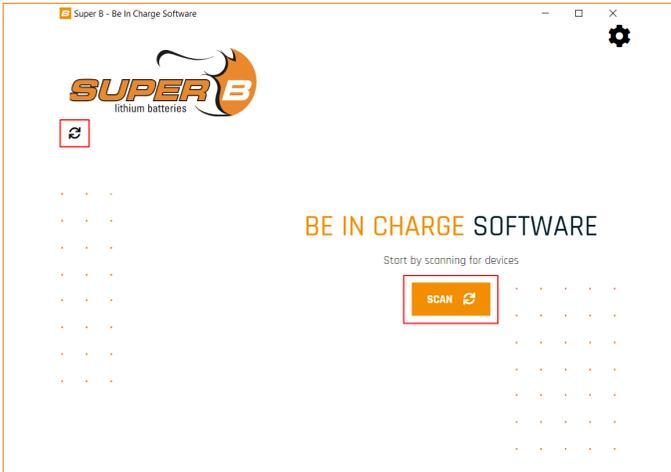

Figure 10. 'Scan' for devices
2. Select the 'Scan' button to start scanning for devices. You can also select the scan/refresh icon in the top-left corner (Figure 10).